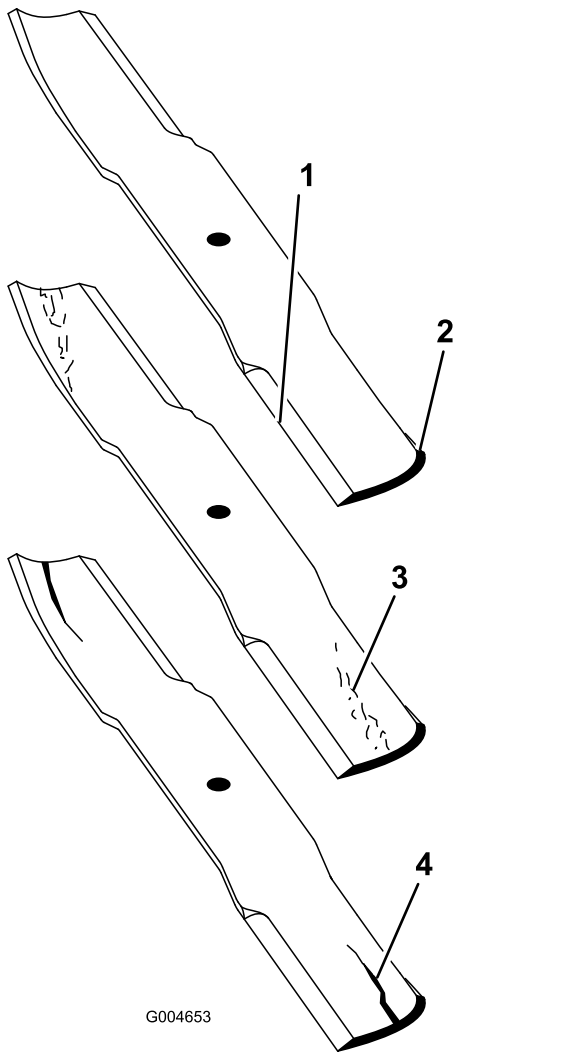

Figure 91
2. Examine the cutting ends of the blade carefully, especially where the flat and curved parts of the blade meet (Figure 91).
Note: Because sand and abrasive material can wear away the metal that connects the flat and curved parts of the blade, check the blade before using the mower. If you notice wear (Figure 91), replace the blade.